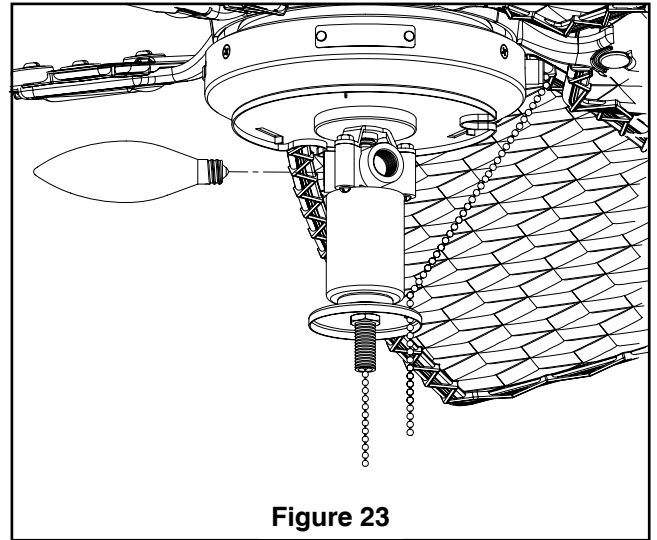

Figure 23
- ☐ 1. Install included candelabra bulbs into each of the three sockets. (Figure 23)